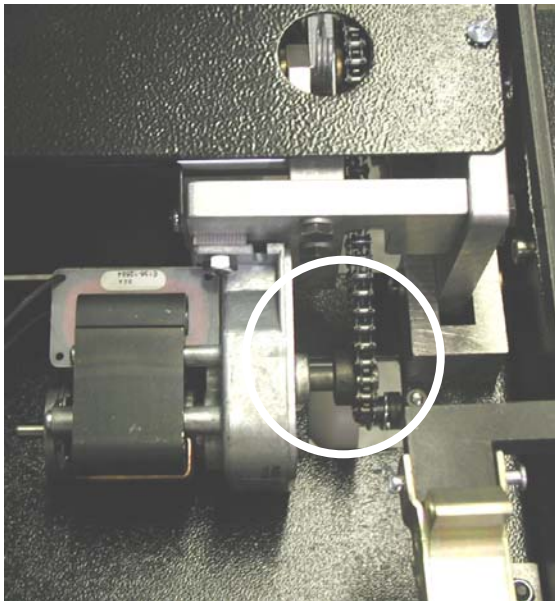

Figure 4-9
2. Locate the oil transfer roller chain at the left rear of the machine, as shown in Figure 4-9.